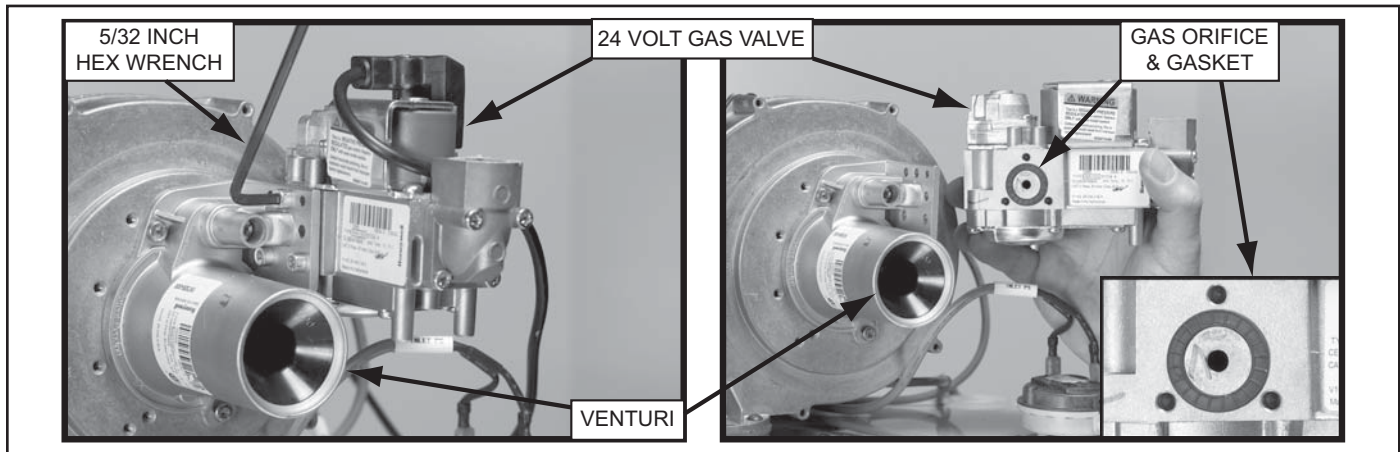
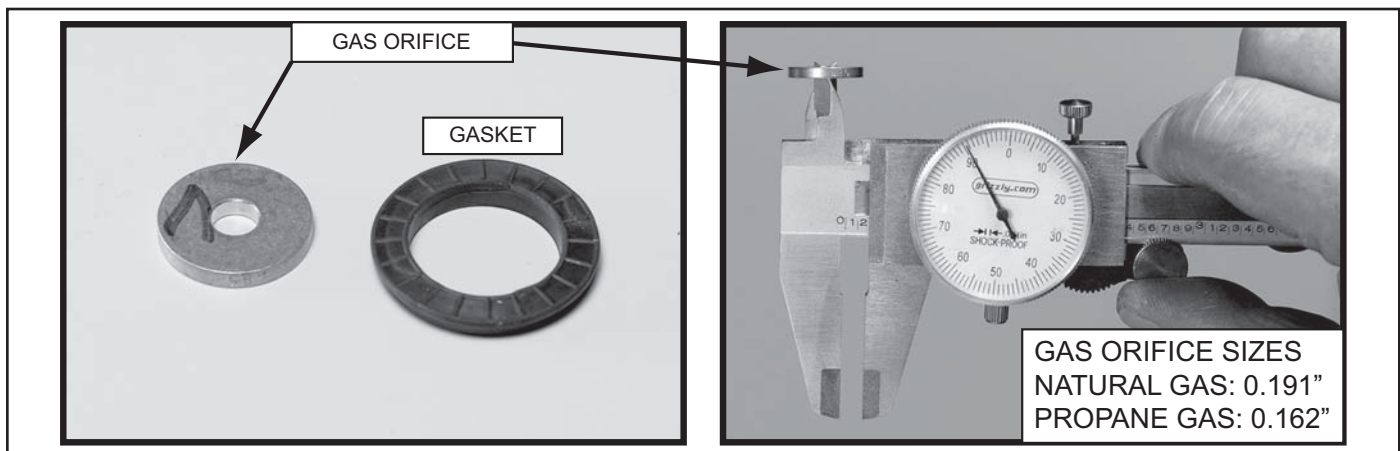

Figure 25
Figure 26
The outlet of the 24 Volt Gas Valve is connected by flange directly to the side of the Venturi and is secured by three - 5/32" hex head screws. A gas orifice with gasket is fitted into the gas valve's outlet flange, see Figure 25 and Figure 26 below. The 24 Volt Gas Valve must be removed to inspect the gas orifice. Ensure there is a new gasket on hand before removing the valve. Call the toll free phone number on the back cover of this manual to order parts. Have the complete Model, Series and Serial number (located on the water heater's rating label) for the water heater being serviced on hand before calling.
8. Remove 3 gas valve mounting screws - 5/32" hex head machine screws, see Figure 25 below.